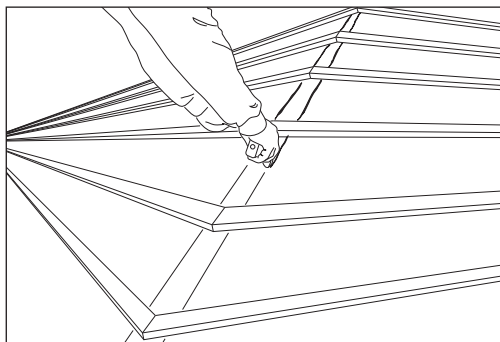

Fig 1 Neatly mitre battens
- 1 Lay roof underlay and battens in the normal manner, leaving a 5mm continuous gap in underlay either side of hip rafter if roof void is to be ventilated to recommendations of BS 5250. Mitre cut the ends of tiling battens and support on hip rafter (Fig 1).